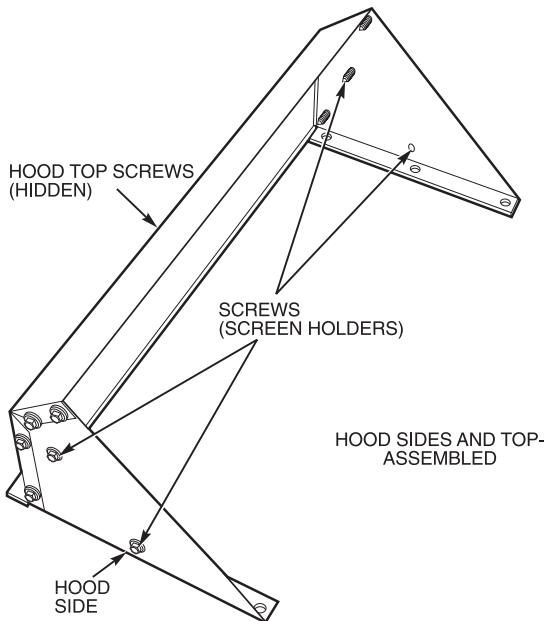
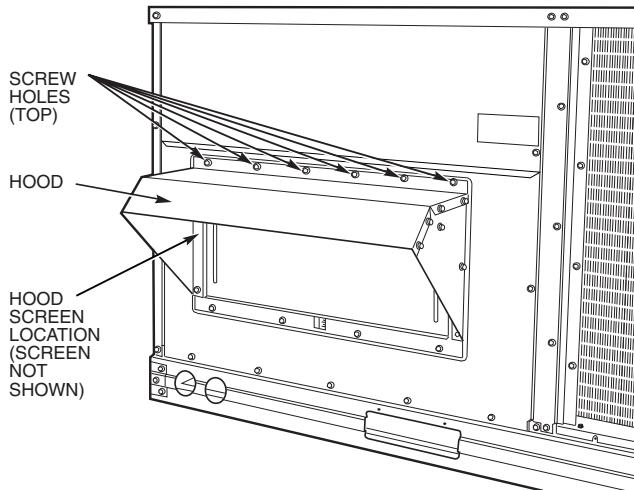

Fig. 12 — Outdoor-Air Hood Details
Fig. 13 — Optional Manual Outdoor-Air Damper with Hood Attached
5. Place the hood on the front of the outdoor air opening panel. See Fig. 12 for hood details. Secure the top of the hood with the 6 screws removed in Step 3. See Fig. 13.
7. Align the screw holes on the hood with the screw holes on the side of the manual outdoor-air damper. See Fig. 12 and 13. Secure the hood with the 8 screws from Step 6.
9. Remove and save the screws currently on the sides of hood. Insert the screen. Secure the screen to the hood using the screws. See Fig. 13.